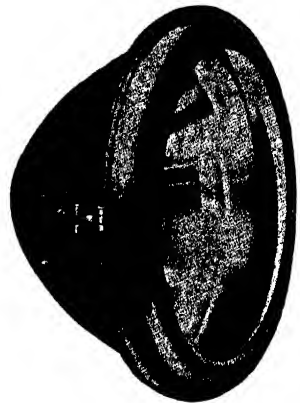

Fig. 19. Typical Electric Automobile Headlight
*Parabolic Type.* A typical electric headlight for automobile use is that illustrated in Fig. 19. The plain form affords a minimum tendency to catch dirt and mud and greatly simplifies cleaning. The position of the lamp is adjusted to give correct focus, as this is essential to give a properly projected beam of light ahead on the road.